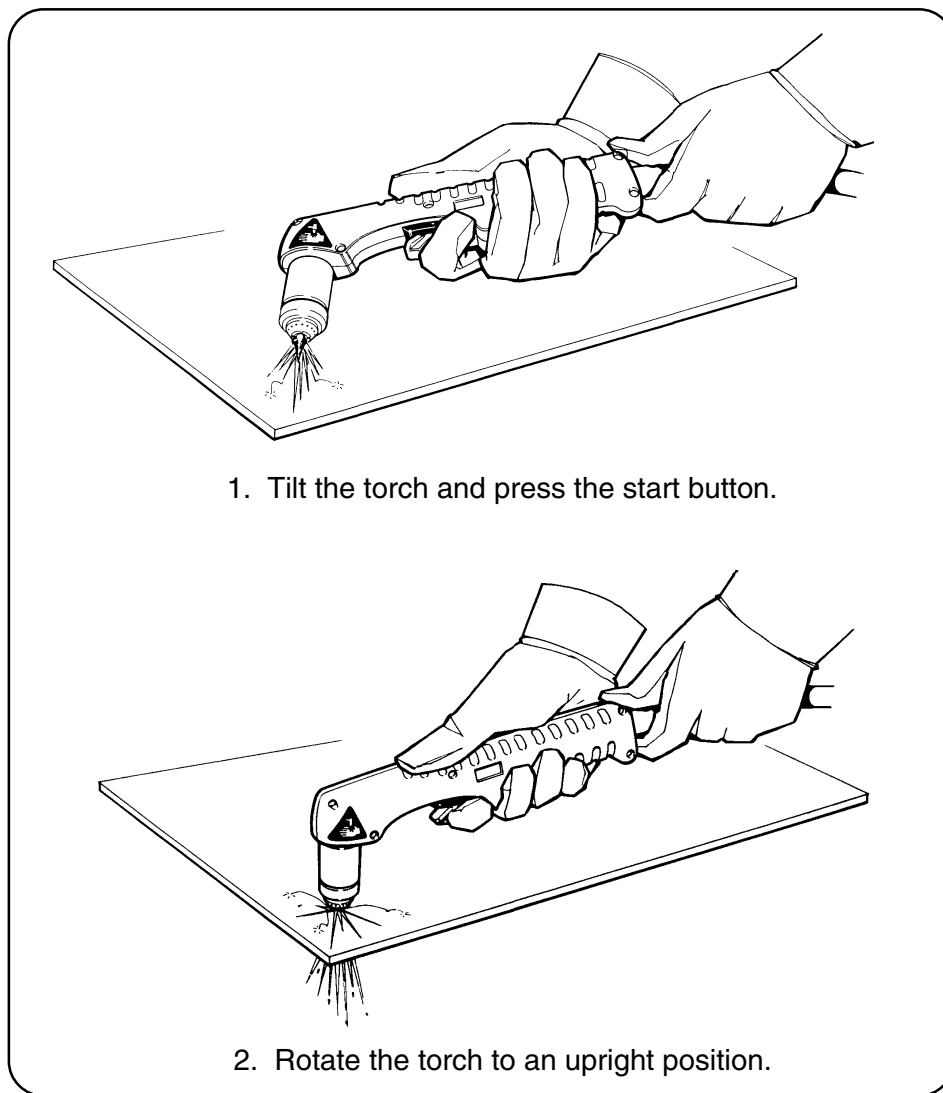

Figure 4-9 Piercing
- Hold the torch at an angle to the workpiece away from yourself, then slowly rotate it to an upright position. (This is particularly important when cutting thicker material.) Make sure that the torch is pointed away from you and the people around you to avoid any danger from sparks and hot metal (Fig. 4-9).